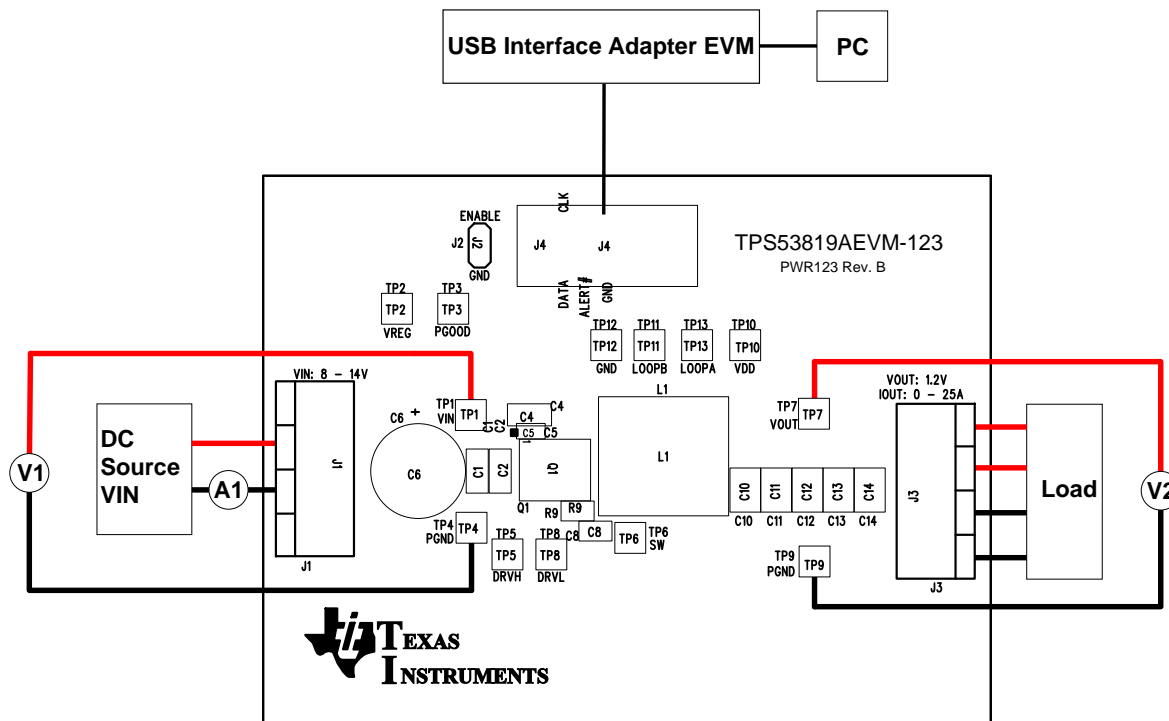

Figure 4. TPS53819AEVM-123 Recommended Test Set Up
Figure 4 is the recommended test set up to evaluate the TPS53819AEVM-123. Working at an ESD workstation, make sure that any wrist straps, bootstraps or mats are connected referencing the user to earth ground before power is applied to the EVM.
1. Prior to connecting the DC input source V_{IN}, it is advisable to limit the source current from V_{IN} to 10-A maximum. Make sure V_{IN} is initially set to 0 V and connected to J1 as shown in Figure 4.
2. Apply the input voltage to the EVM. Refer to Figure 4 for connections and test setup.
1. Set up EVM as described in Section 4 and Figure 4.
2. Set up EVM as described in Section 4 and Figure 4.